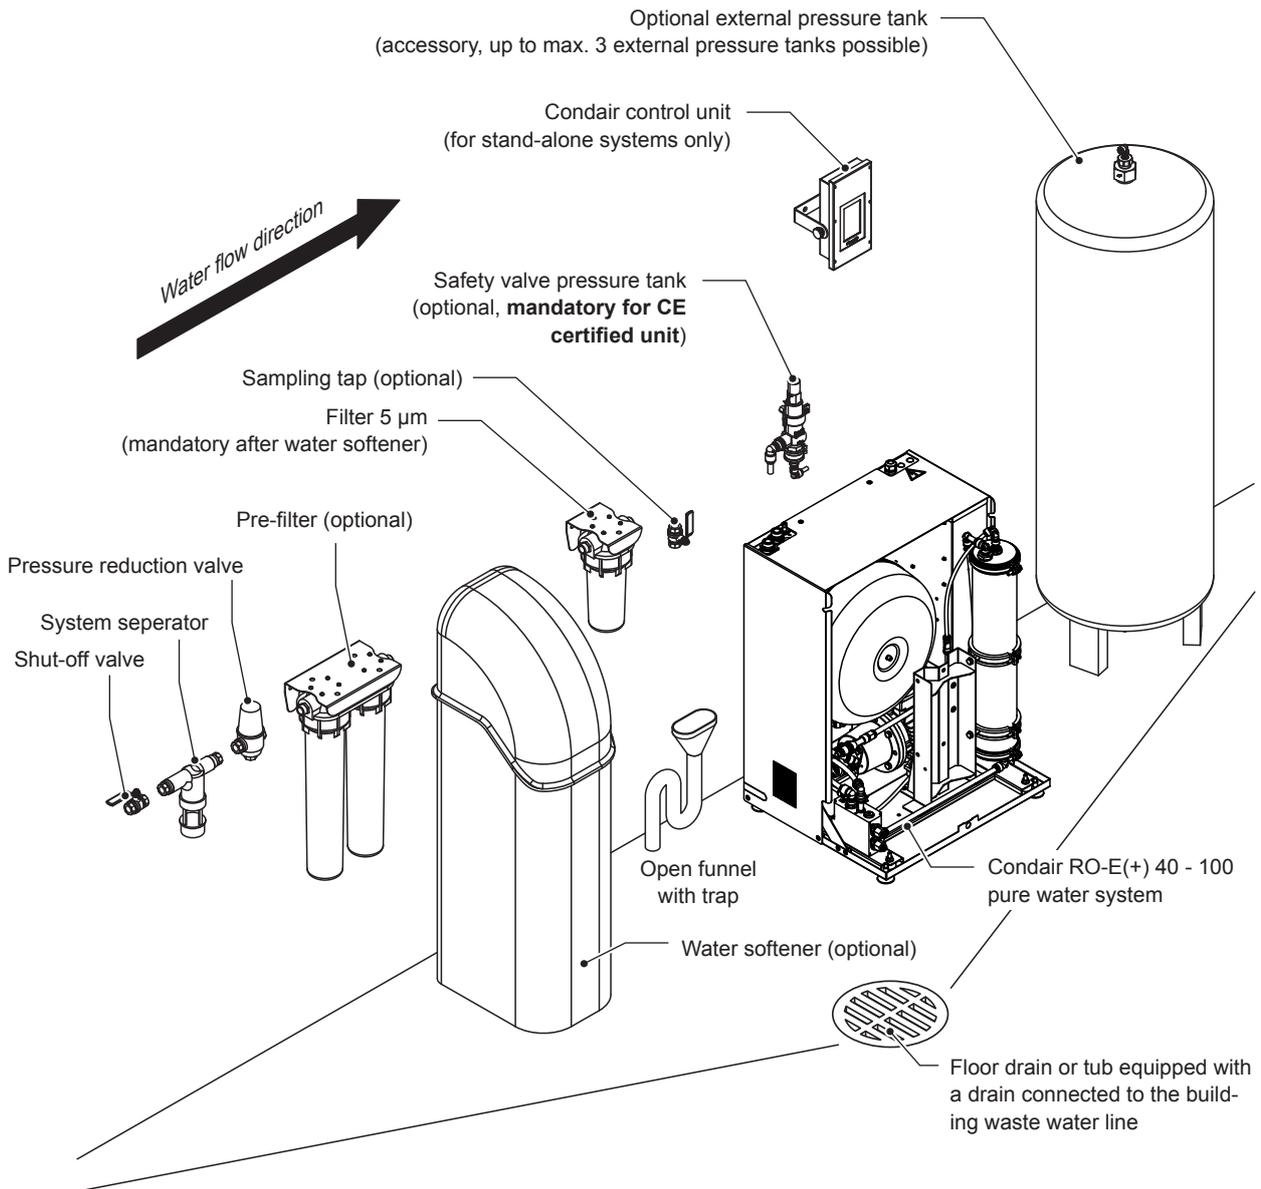
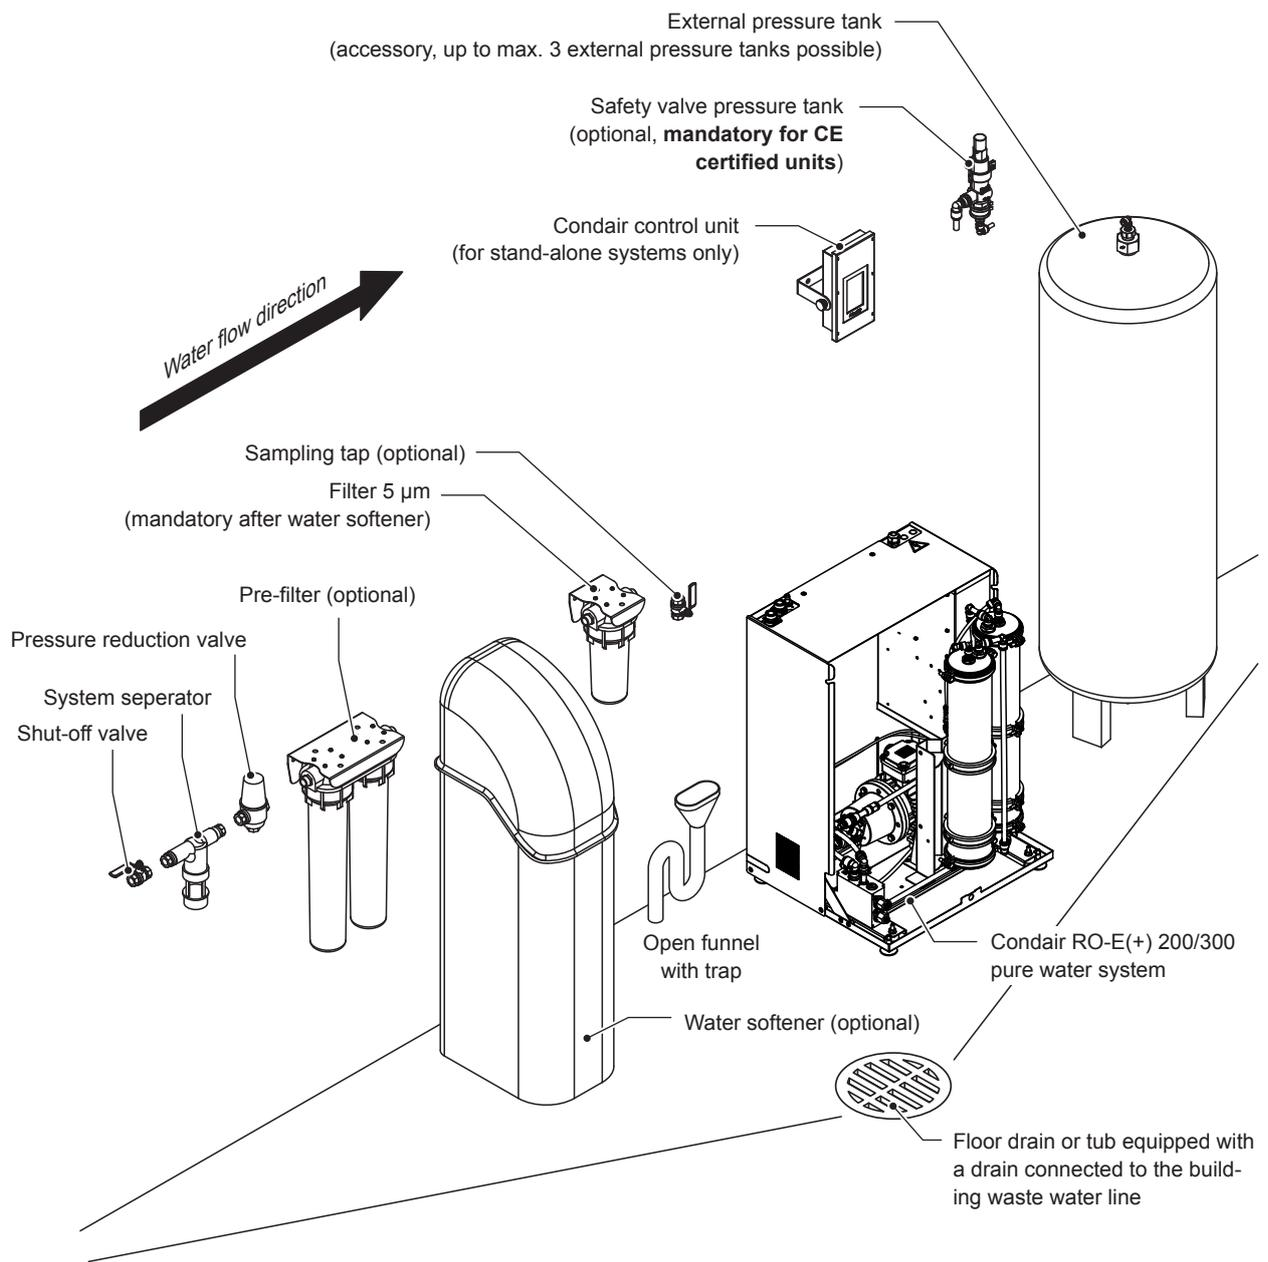

Fig. 3: Positioning of the system components for Condair RO-E(+) 40 - 100 pure water systems with or without optional external pressure tank
Fig. 4: Positioning of the system components for Condair RO-E(+) 200 - 300 pure water systems with external pressure tank
- The components upstream of the Condair RO-E(+) pure water system (shut-off valve up to and including test cock) must be installed in the sequence shown in Fig. 3 and Fig. 4.
**approx. 150 mm above the unit (left of the centre of the unit)**, see Fig. 3
**approx. 150 mm above the (first) external pressure tank**, see Fig. 4